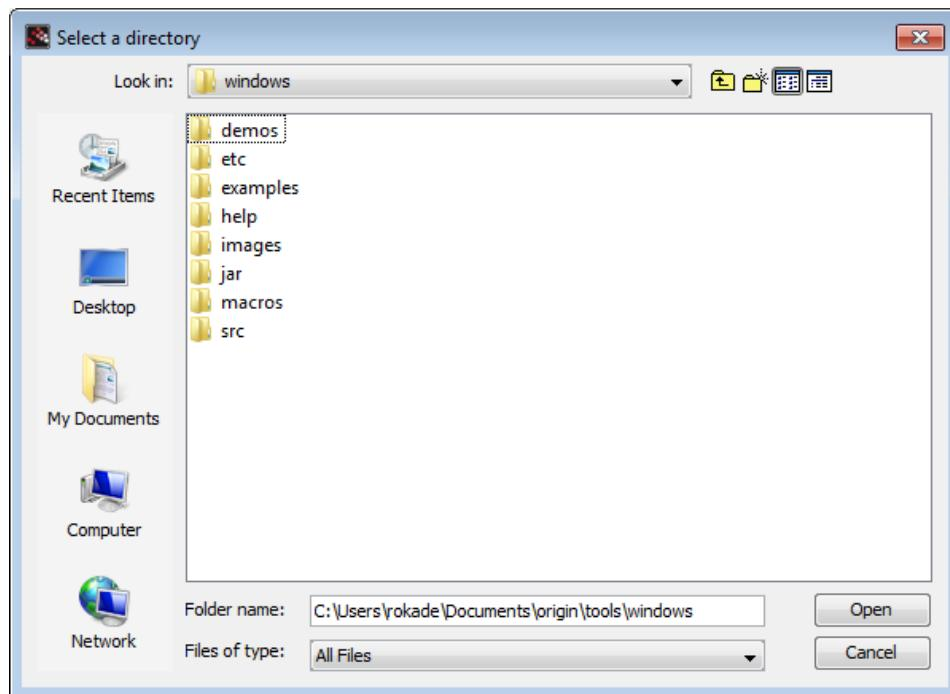

Figure 3.8: Browsing toolbox directory
3. Then, one has to browse to the toolbox folder **Origin/tools/scilab/windows** or **Origin/tools/scilab/linux**, as the case may be, and click on, **Open**, as shown in Fig. 3.8.